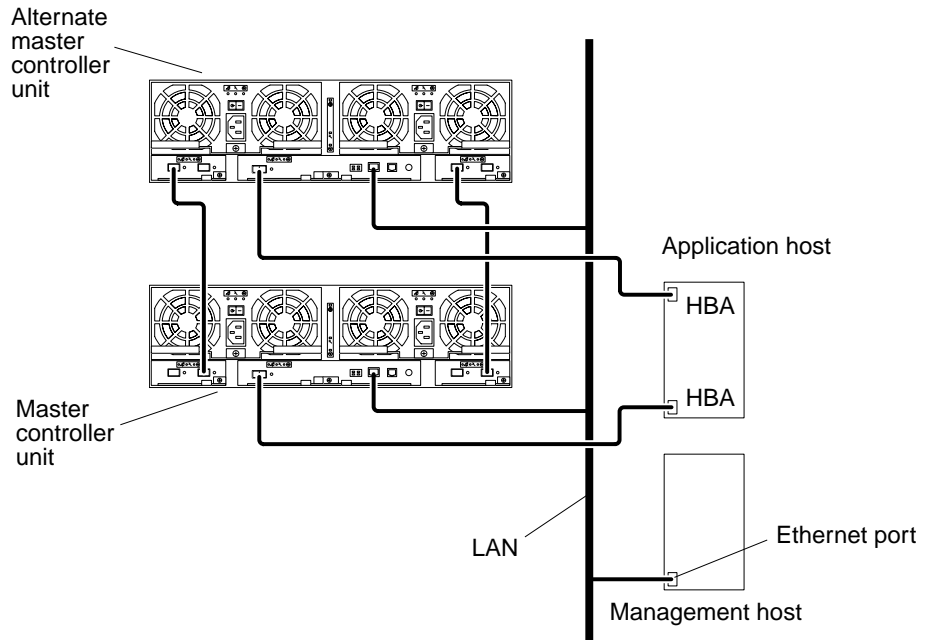

FIGURE 4-1 Array HA Configuration Example
- The application host has two HBAs connected, as shown in FIGURE 4-1.